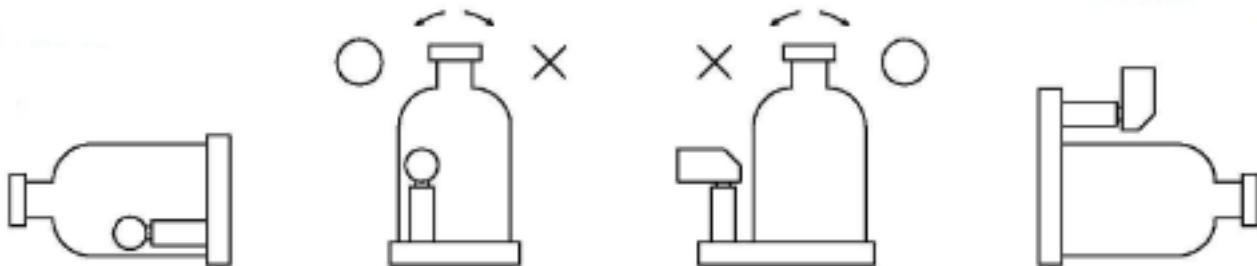

Figure 1
**To raise the jack,** use narrow end of jack handle to tighten release valve clockwise (CW). Insert handle into socket, and operate pump.
**To use the jack in a horizontal position,** use Figure 1 to determine how to use the jack in a horizontal position.